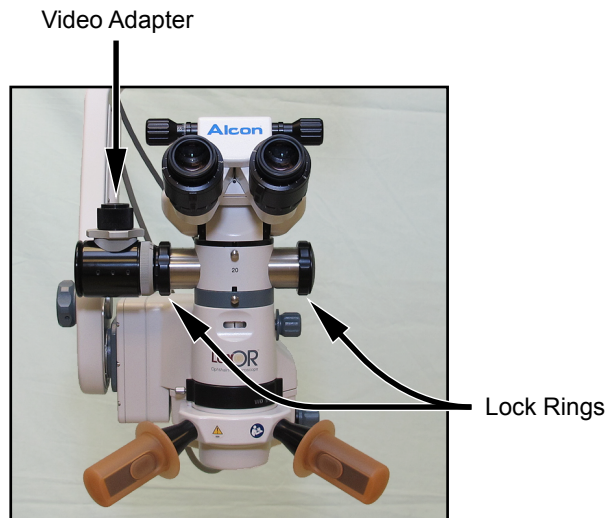

Figure 6-4 Installing the Video Adapter
4. Remove the port cover on the doctor's preferred side of the beam splitter by unscrewing the lock ring. Insert the video adapter firmly and tighten down with the lock ring, (Figure 6-4).